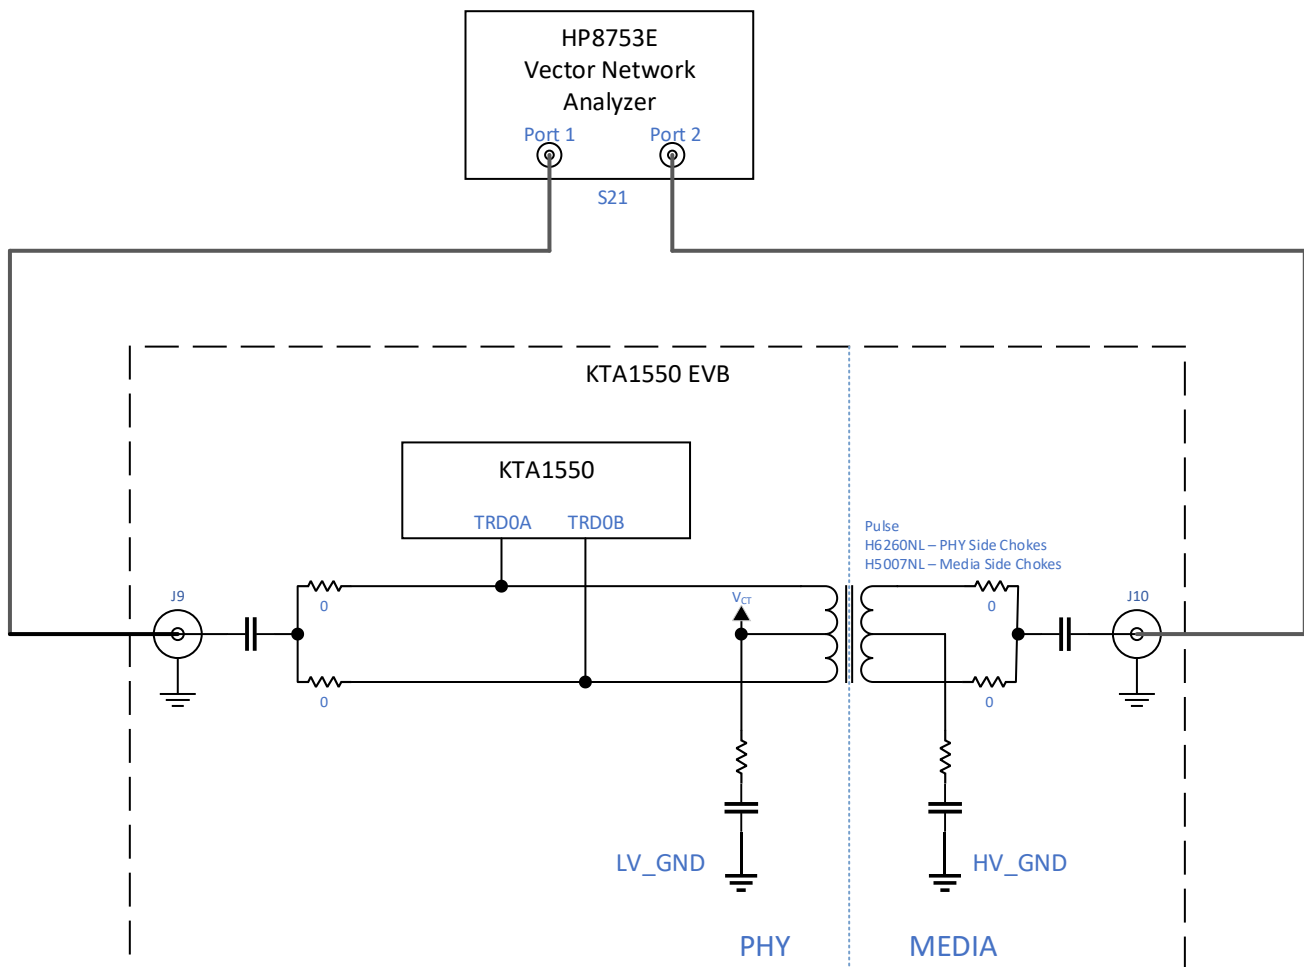

Figure 3: Vector Network Analyzer connection diagram for TRD0 common mode rejection measurements
3. For Vector Network Analyzer connections and settings, refer to Figures 3 and 4 for EVB connections: